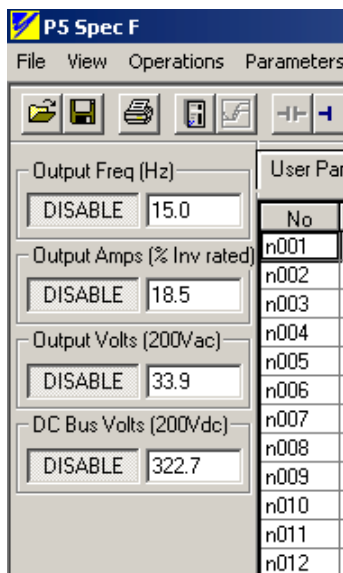

Figure 3.11: Monitor Started
2. Go to the menu and click on **Operations > Start Monitor/Status** to activate the monitor function. A window with the monitored parameters will appear on the left hand side of the screen (Figure 3.11). The monitor configuration icon  will become active, indicating that the monitored parameters can be changed.